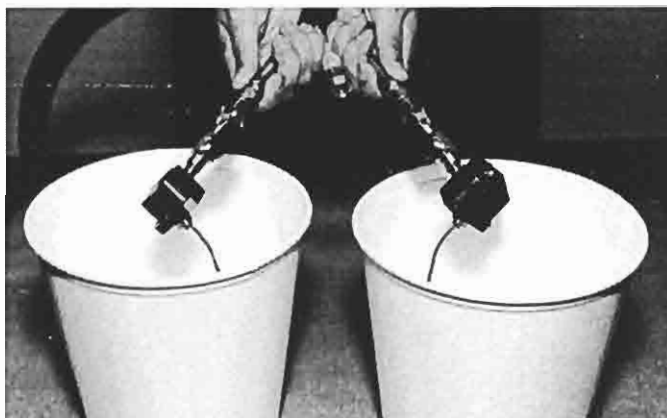
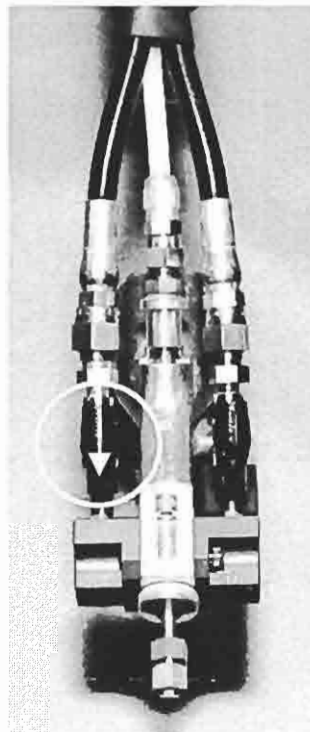

Fig. 1
Fig. 2
3. Place separate clean containers under each individual Side Block. Open manual Material Valves (black arrow forward, see Fig. 2 & 3) on each Side Block to allow trapped air to escape the Hose and material to flow into the containers until all air is purged from the material system. (see Fig. 1)
- Turn Purge Air and Material Valves ON at Gun. (see Fig. 2 & 3)